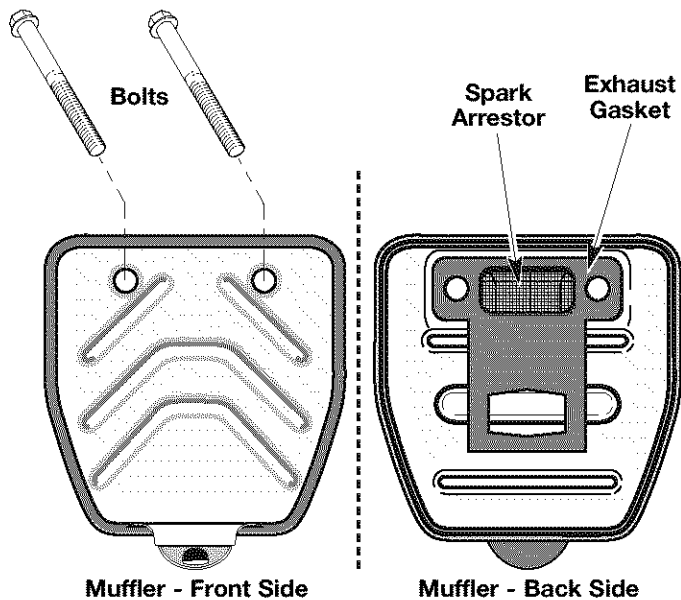

Fig. 27
2. Locate muffler front and the two (2) bolts securing it to the engine. (Fig. 27). Remove the two (2) bolts using a flat blade screwdriver or 5/16-inch socket or nut driver. Pull muffler off of the engine.
3. Turn muffler over to the back side and locate the exhaust gasket. Remove the muffler gasket from the muffler (Fig. 27).
7. Place exhaust gasket against muffler's back side. Align exhaust gasket bolt holes with bolt holes in muffler. While holding exhaust gasket in place, insert bolts into muffler's front side. (Fig. 27).